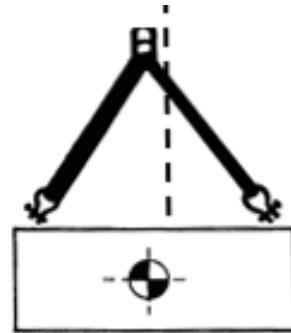

Figure 12.2: Center of gravity or balance point
- The center of gravity is the central point at which the load weight would be evenly distributed to any side; this is also referred to as the balance point (Figure 12.2).